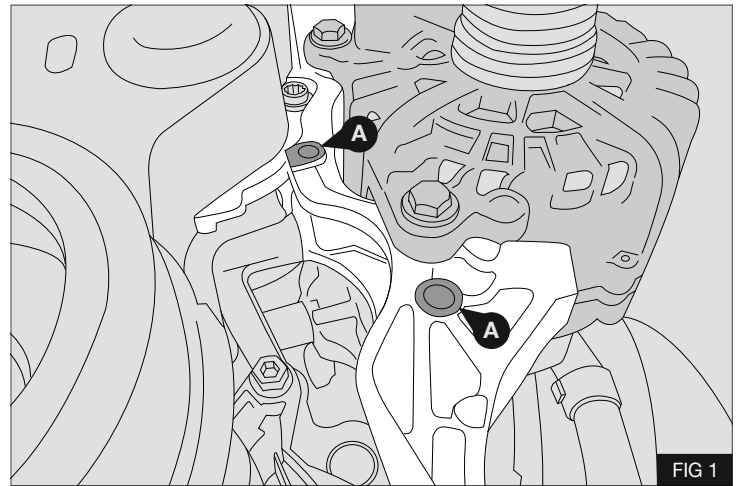

FIG 1
2. Install the supplied automatic belt tensioner (3) to the alternator mount bracket at positions (A) - Fig 1